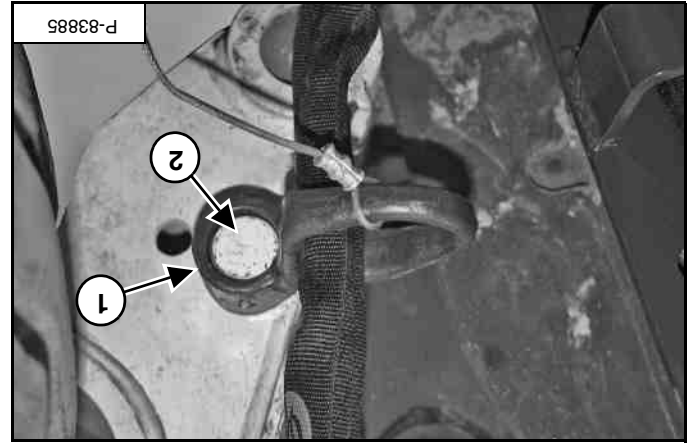

Figure 66
Remove the removable hose guide (item 1) from the mounting post (item 2) [Figure 66].